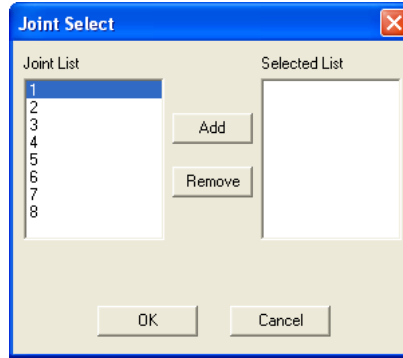

Figure 3-7 Joint Select dialog box
- Choose the JOINTS button. The dialog box of Figure 3-7 appears.